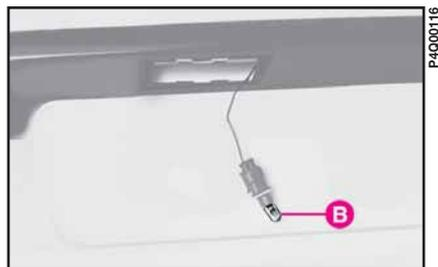

fig. 30
3) change bulb **B**-fig. 30 by pressing a 12V-5W bulb into the holder.